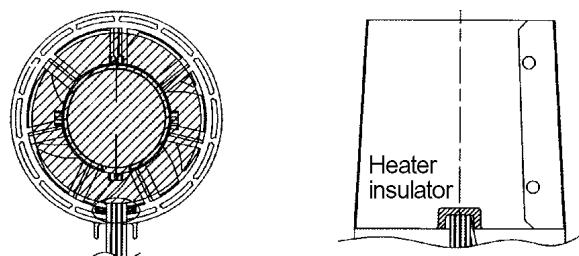

Figure 4
3. Insert the blue, brown, red, yellow, black lead wires between the guide post of air flow assembly, and align heater insulator slot and lead wires as shown in Figure 4.